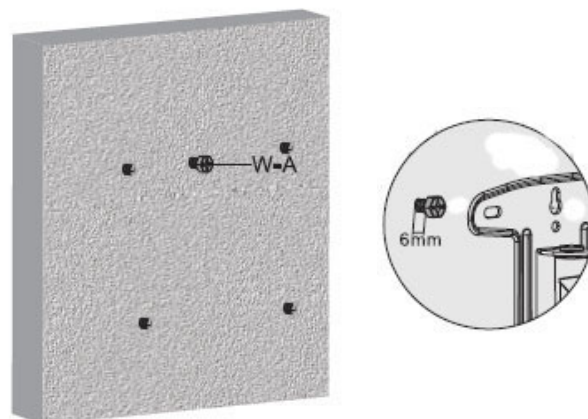

Figure 2B-4
7. Place the wall plate to the wall, insert the top center mounting hole onto the mounted screw, see **Figure 2B-5**.